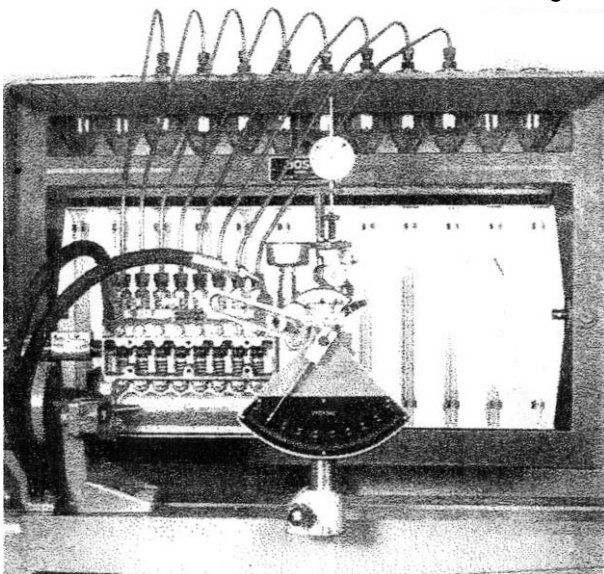

Fig. 22
4.11. Fitting of the governor; refer also to VDT-WJP711/1 fig. 69 to 72. (Pay attention to the clearance at the pin (mushroom tappet)). Back off the control spring adjustment screws until they are flush with the edge of the cover plate. Connect pressure lines and test oil hoses. Feed and return lines are routed differentially; connect hoses in the same way as in the vehicle. The feed line can be identified by the larger connection fitting; the return line is fitted with the pressure relief valve. Use connecting elbow EFEP 435 on the return line. For PES 8 KL.. use the pressure relieve valve PVE 53 S 17 Z on the return line instead of the threaded connection. Use high gaskets, otherwise, the tread will touch the bottom of the hole (fig. 22).